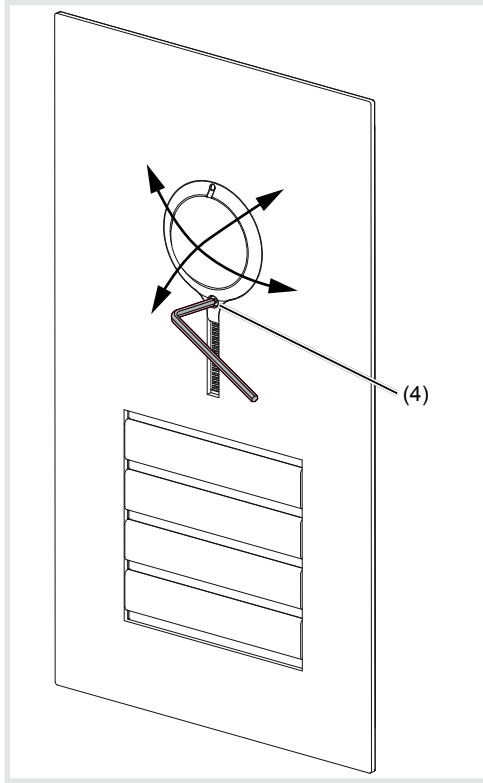

Figure 13: Alignment of the camera
- Loosen the locating screw for the camera 1.5 mm with the Allen key supplied (Figure 13).